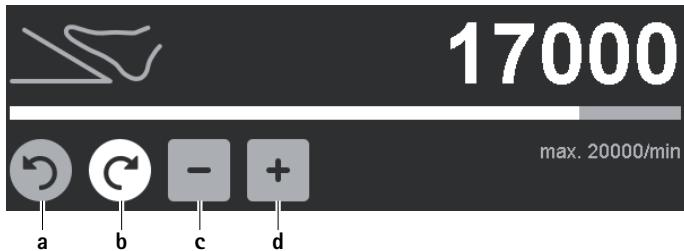

Fig. 6 Changing the maximum speed setting/rotational direction
- ▶ Change the rotational direction: Activate the inactive, gray rotational direction button for clockwise/counterclockwise rotation **a/b**, see Fig. 6.